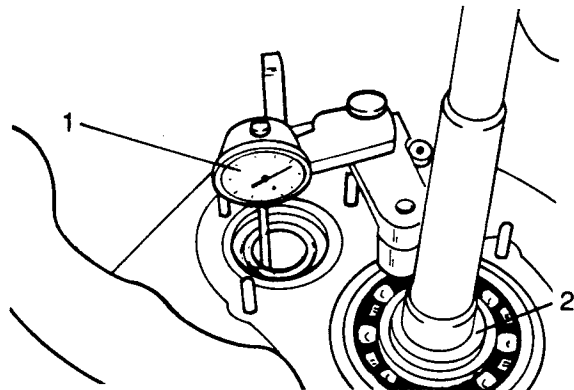

Fig H1.40
- (3) Refer to Fig H1.40. Fit the dial gauge (1) part No. 18G191 on its support so that the needle makes contact with the layshaft.
- (4) Fit the washer and the spring ring (2) that fixes the bearing to primary shaft.